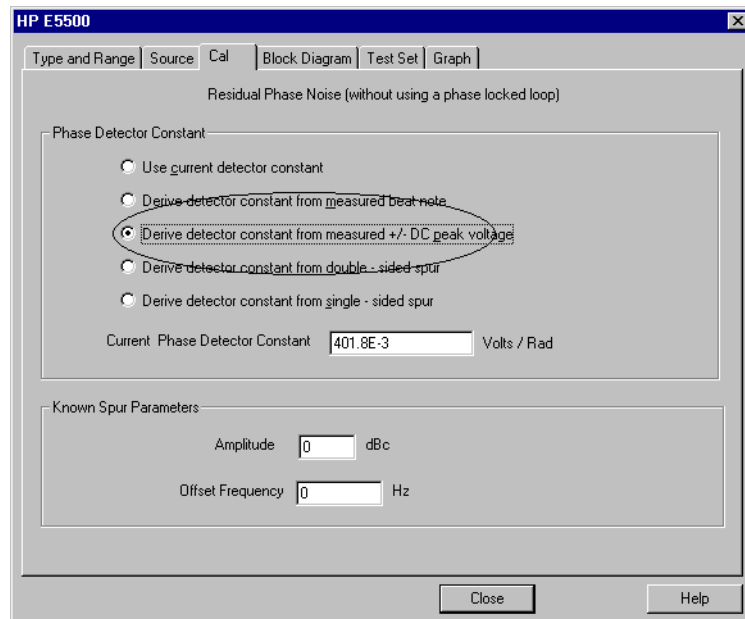

Figure 9-5 Select Constant in the Cal Tab
- Select **Derive detector constant from measured +/- DC peak voltage** as the calibration method. See Figure 9-5.